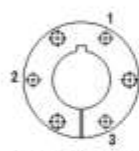

Figure 1: QD-SF thru J
5. Tighten bolts in a star pattern alternately and evenly as illustrated in Figures 1 - 6 in one bushing only until all bolts are pulled up to the proper wrench torque listed in Table 1. Do NOT over torque. If a key seated bushing is used without a key, a fluid resistant material to prevent moisture can be filled in the key seat.